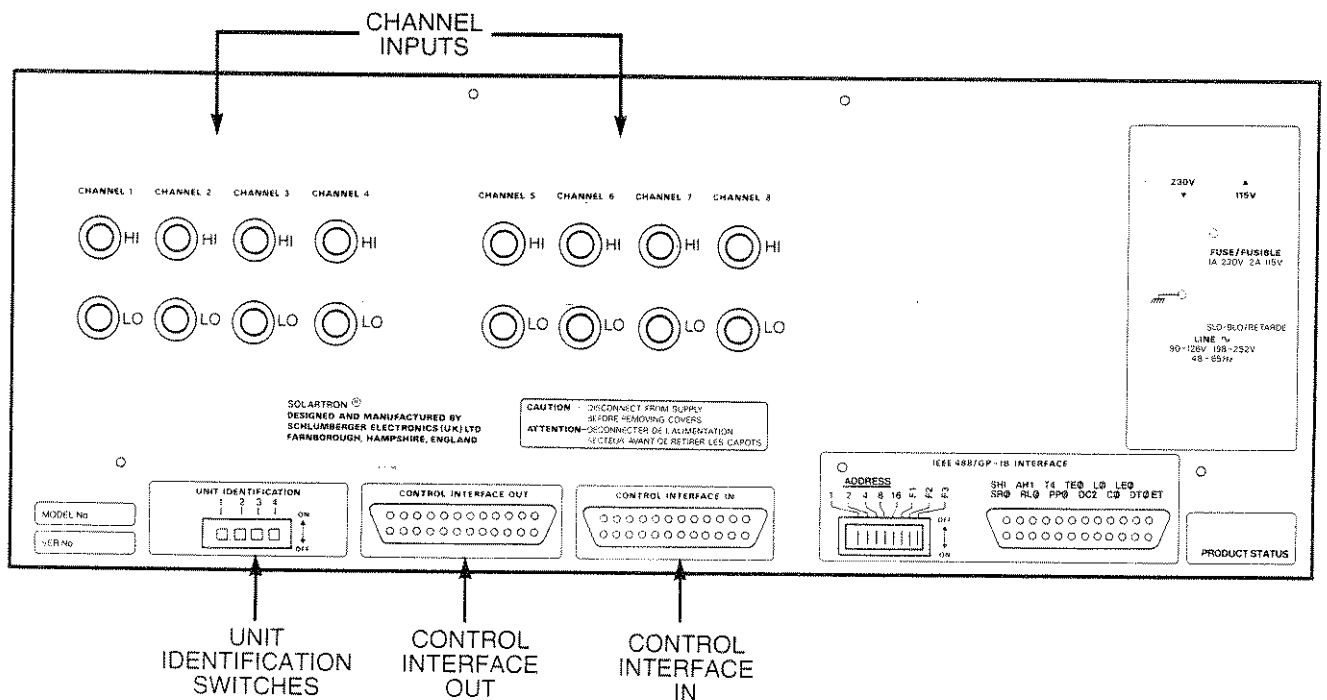

Fig. 16.2 1251 Rear panel
2. Plug the other end of the ribbon cable into the first of the 1251 Units, via the connector labelled **Control Interface In** mounted on the rear panel of each 1251 Unit, as shown in Fig. 16.2.
There is a set of four switches (numbered 1 to 4) on the rear panel of each 1251 Unit, labelled **Unit Identification**, as shown in Fig. 16.2. Each 1251 Unit must have one of the four switches, and one only, in the ON (up) position. The number of the switch selected becomes the **Unit number**; this number must be different for each 1251 Unit, to enable the 1250 to distinguish between Units in the 1250-1251 Interface Bus and route data correctly to and from them.